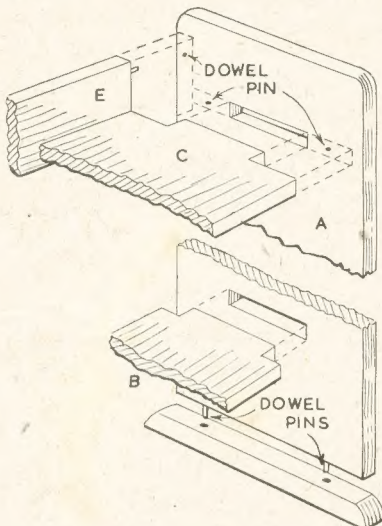

Fig. 3—Details of shelf and foot joints
Both these pieces are fitted into the sides by the open mortise and tenon joint, shown in detail in the constructional diagram, Fig. 3.
When the tenons have been glued into the uprights some dowel pins may be driven in to strengthen the joint (see Fig. 3) where the shelf (C) is to run into the upright (A).
length measurement is given for these, and a thicker piece of wood could be got for these than  $\frac{3}{8}$  in. Then the dowel pins which hold them have a better fixing. See Fig. 3 for the method of fixing the dowels. Some workers may desire the simpler method of screwing.